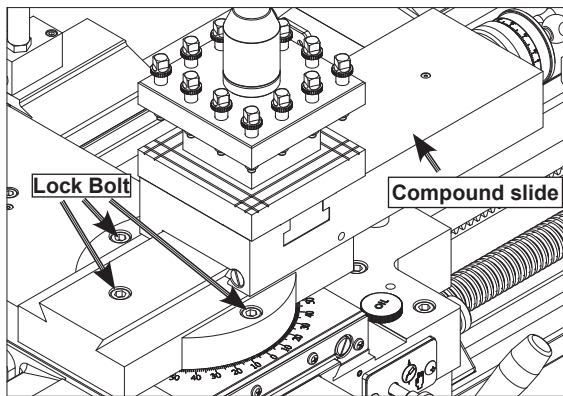

Figure 32. Compound slide set at an angle.
1. Loosen the three CAP screws at the base of the compound slide (Figure 32).